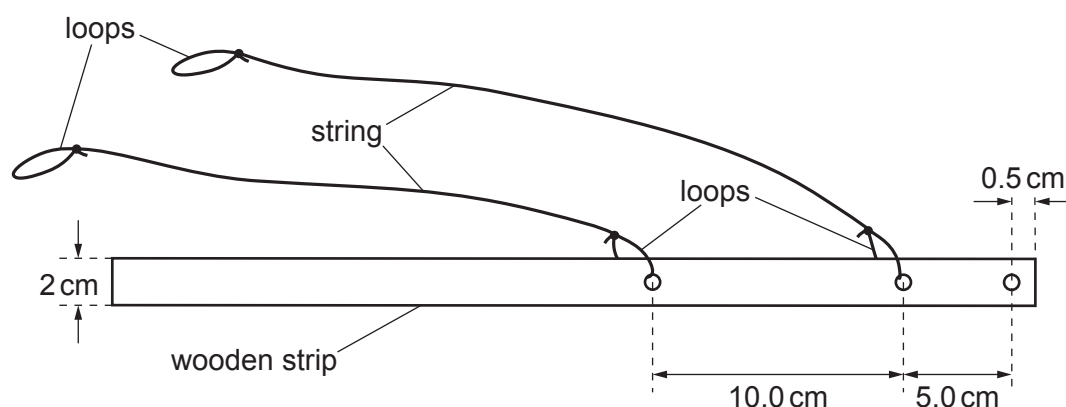

Fig. 2.1 (not to scale)
- 1 Three holes should be drilled in the wooden strip as shown in Fig. 2.1.
The two strings should be attached to two of the holes as shown in Fig. 2.1. At the other end of each string there should be a loop. The four loops should each have an approximate circumference of 10 cm.